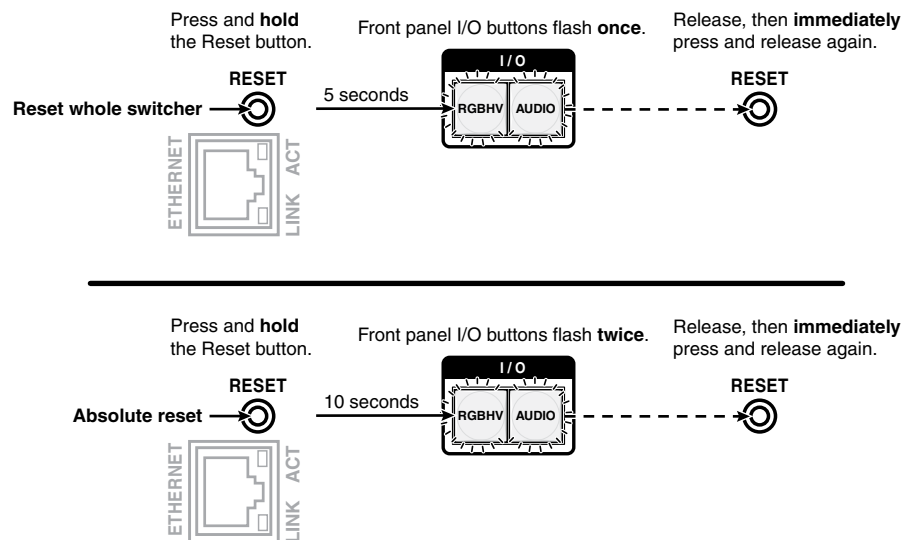

Figure 56. Whole Switcher and Absolute Resets
1. Use an Extron Tweezer or other small screwdriver to press and **hold** the Reset button until the front panel I/O buttons (RGBHV [CrossPoint switchers] or Video [MAV Plus switchers]) and Audio buttons blink once (reset whole switcher) or twice (absolute reset) (see figure 56).